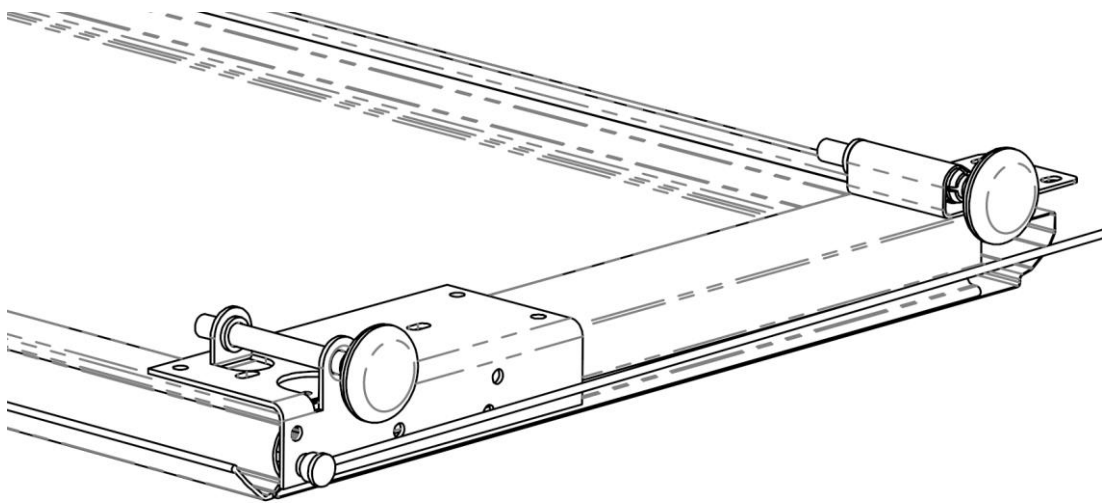

Figure 10
e. Slide rollers into each bottom bracket and end hinge. (Figure 10)